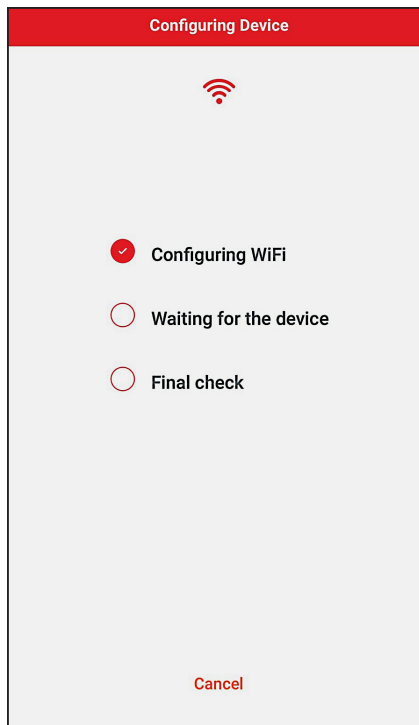

Figure 93. Configuring Device
- The Raymote mobile app will provide the Wi-Fi network credentials to your unit. See Figure 93.